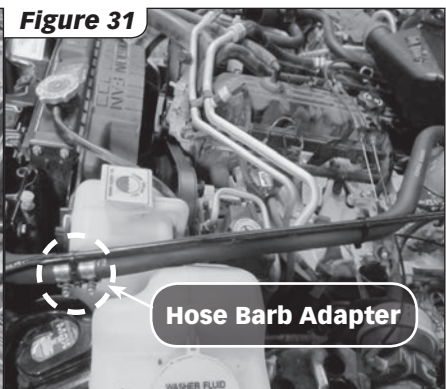

Figure 31
2. Install hose barb adapter (P/N 92191) and barb to Techni-Cooler inlet hose (P/N 94268-07) and secure with clamps (P/N 92810). Secure hose to radiator support rod using tie wrap (P/N 62001). **See Figure 31**